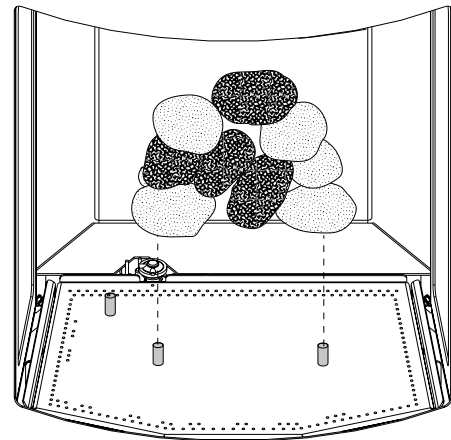

Figure 27. Set River Rock assembly on pins.
1. Engage the River Rock bed with the two center burner pins as shown in fig. 27. Either side of the rocks may face outward as desired.